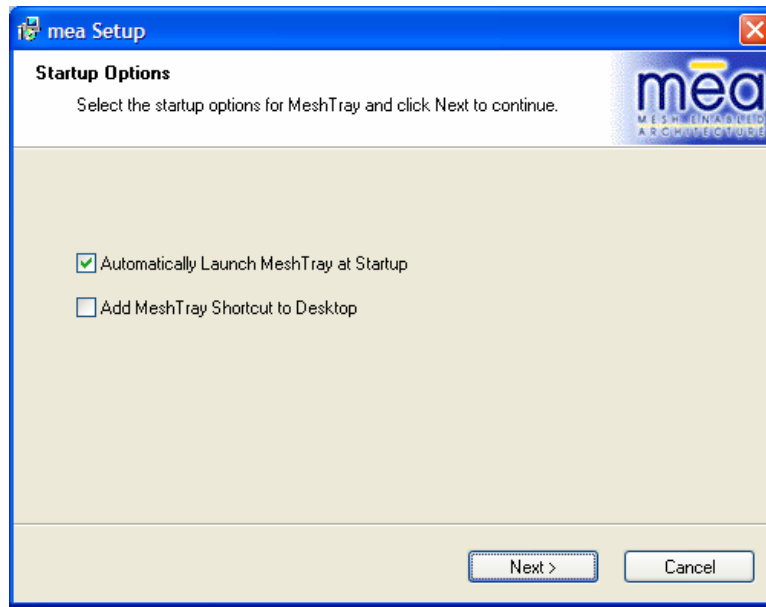

Figure 5. MEA Setup – Startup Options Dialog
9. The *Startup Options* dialog box will be displayed as shown in Figure 5. The user can modify the default installation configuration by checking or un-checking the boxes on this installation dialog box. Click on the **Next** button to continue the installation process.